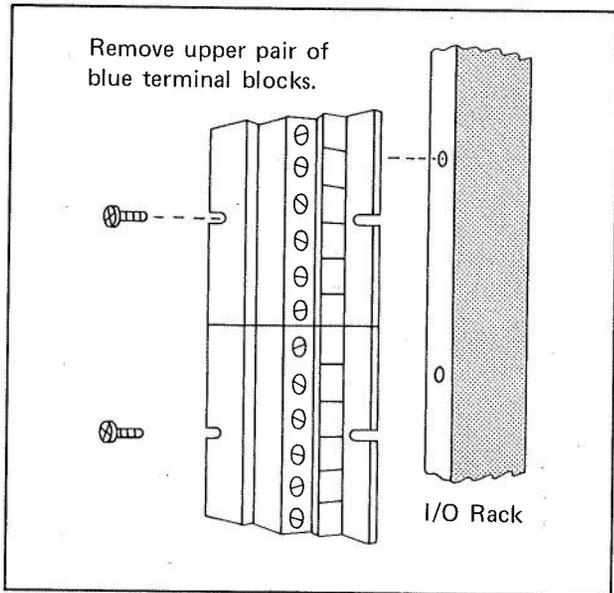
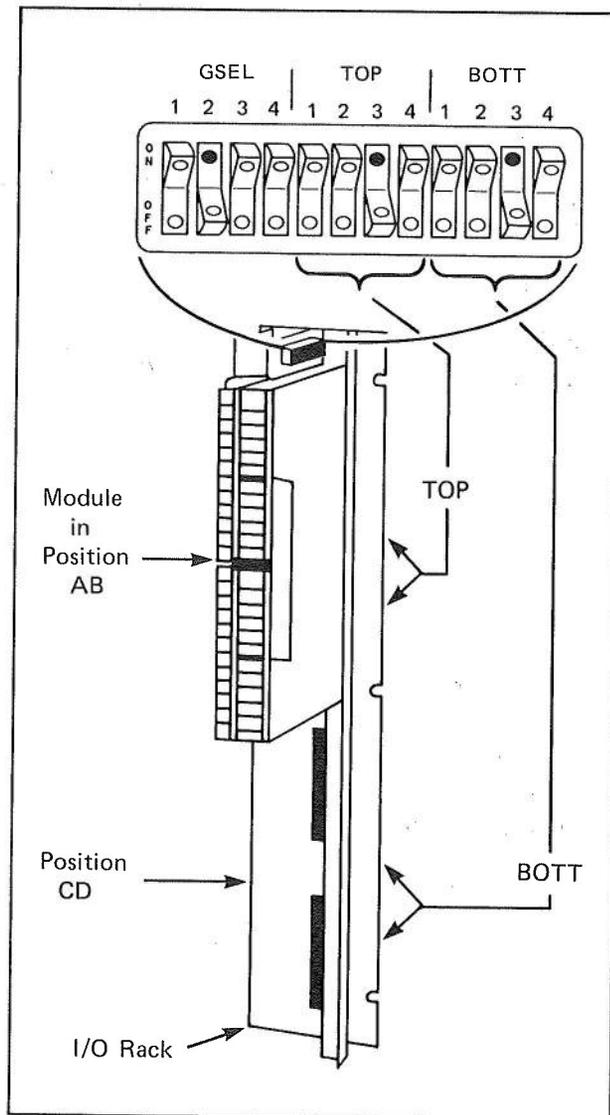

Figure 3 – Terminal Block Removal
Figure 4 – Rack Switch Location
Step 1 — Refer to the system drawings and determine the exact I/O Rack Positions in which the Module will be placed. (See Figure 4 for an explanation of "position.") Use a screwdriver to remove the terminal block adjacent to the top half of the Module. (It cannot be installed if the block remains in place. See Figure 3.)
Step 2 — Confirm the exact Positions the Module will occupy in the I/O Rack. (Although the Module can be placed in either the upper 2 Positions or the lower 2 Positions, it may not straddle Positions B and C. See Figure 4.) It is important that it be placed according to the user program Reference Number scheme.
Step 6 – On the I/O Rack in which the Module is placed, locate the Rack Switch assembly. It is located at the top right-hand side. (See Figure 4.)